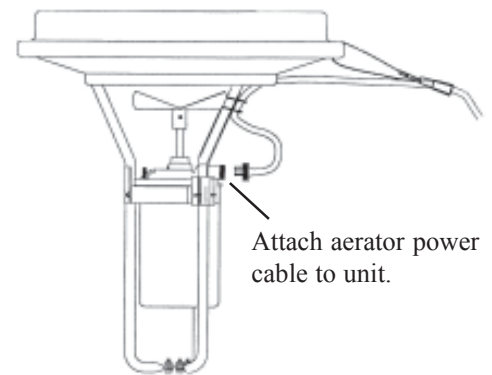

Figure 1
**A. Attach your Otterbine power cable to the aerator.** Align the pigtail connector on the cable up to the pin configuration on the bulkhead on the aerator. **HAND TIGHTEN** the coupling nut onto the bulkhead connector. **DO NOT OVER TIGHTEN -- OVER TIGHTENING WILL CAUSE A FRACTURE IN THE CONNECTOR AND COULD LEAD TO A SHORT CIRCUIT--**see Figure 1.